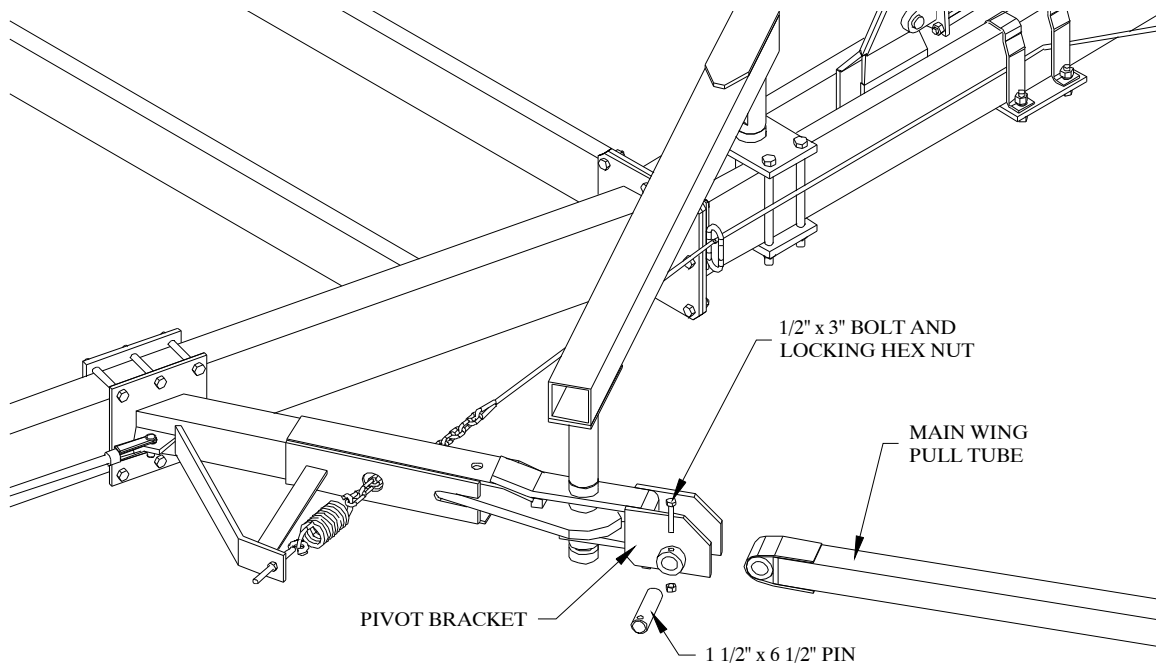

Figure 32
1. Attach the main pull tube to the pivot bracket with the 1 1/2" x 6 1/2" pin. Refer to Figure 32. Note that the grease fitting should be on the end nearest to the cart and pointed up.